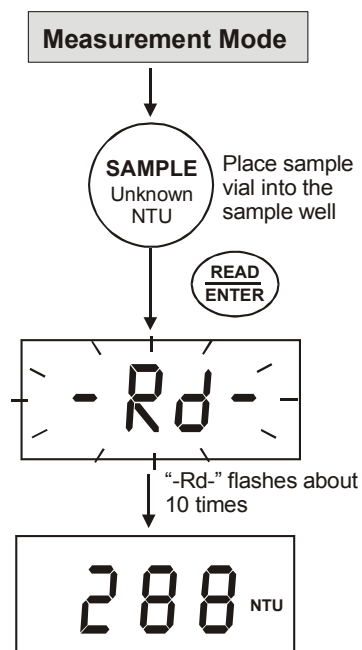

Figure 11: Reading Turbidity Value
6. After the power-up sequence, the meter goes to measurement mode and the display blinks "--Rd--" for about 10 times. See Figure 11.